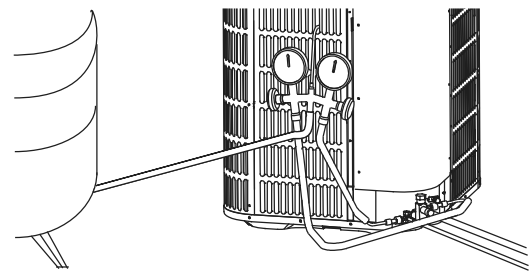

Figure 14-5
- Connect gauges to refrigerant bottle and unit as illustrated (Fig. 14-5).